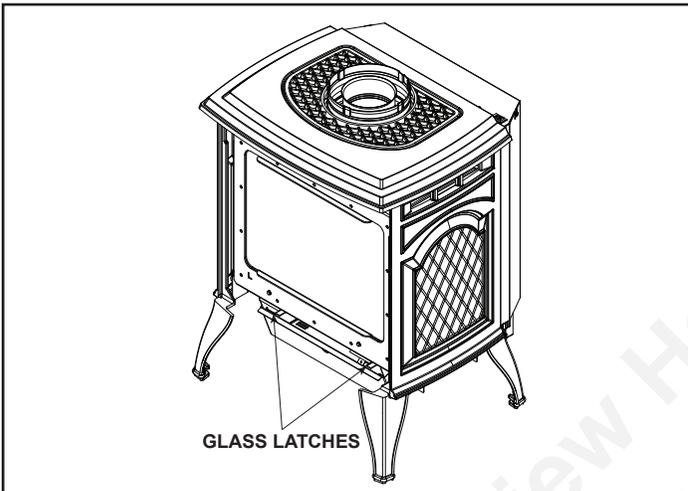

Figure 6.12 - Remove Glass Frame
- Release the glass latches on the lower corners of the appliance and remove the glass assembly. See Figure 6.12.